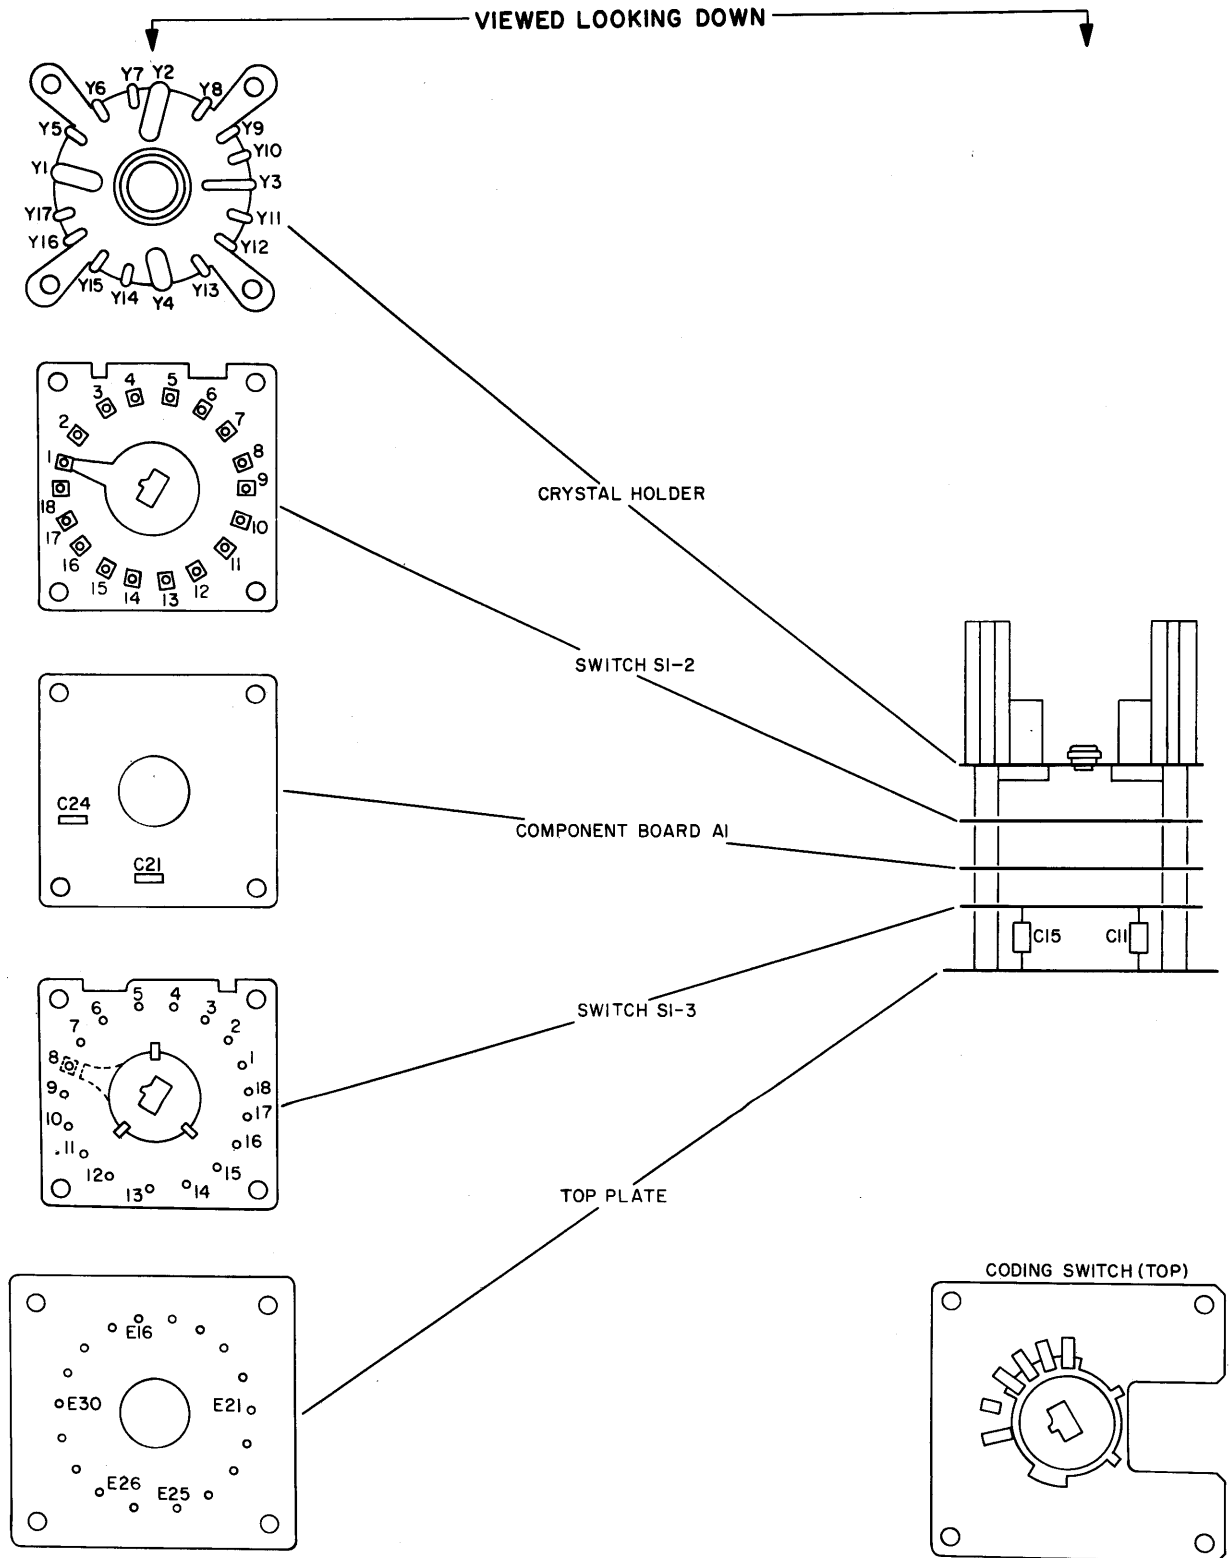

Figure 3-5. Crystal Switch Assembly, Component Orientation
- a. Ensure that crystal assembly components are oriented as shown in figure 3-5.